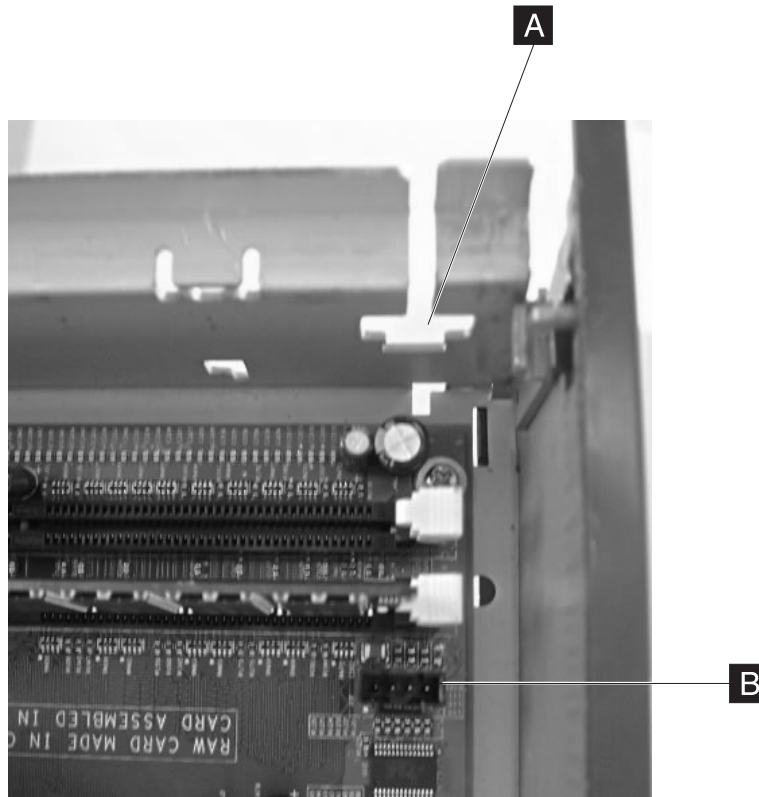

Figure 7. Routing the integrated display cables
4. See Figure 7. Insert the integrated customer display cable into the hole ( **A** ) in the top of the unit.